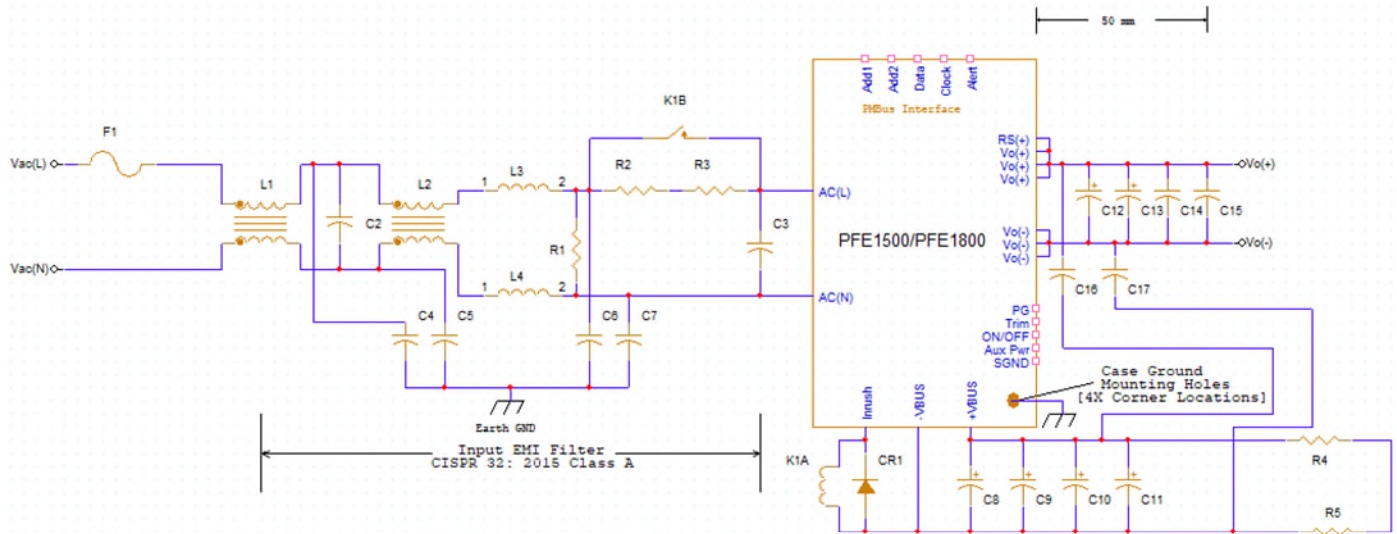

Fig. 7-1 Basic Connection
For proper operation, the PFE1500/1800 series module must be connected with the external components shown in Figure 7-1. Pay attention to the wiring details. If the PFE module is wired incorrectly, the power module may be damaged.
Connect bleeder resistors, R1, across the AC input terminals and R4 and R5 in series across the bulk capacitors C8 - C11 as shown in Fig. 7-1.
Y-capacitors cross the dc-dc converter isolation boundary and are used to reduce common mode noise. These capacitors should be connected between the points indicated in figure 7-1 with low inductance traces that are as short as possible. Capacitors with a high voltage rating are typically required for safety isolation withstanding purposes. High test voltages are often applied across these capacitors during production hipot testing.
3. Bleeder resistors, R4 & R5 (470 k $\Omega$  / 2 W), must be connected across C8, C9, C10 or C11 to discharge the bulk capacitor voltage to a safe level after powering off the PFE module. Refer to Figure 7-1.
Wire wound, thermal fused inrush resistors should be inserted between the line filter and the input terminal, AC(L) as shown in Fig. 7-1, to limit the inrush current to a pre-determined level. Proper inrush control is required during turn-on to avoid the possibility of the external line fuse being blown, the input circuit breaker from being tripped, the bulk capacitors and/or PFE Series module internal parts from being damaged, and to prevent oscillation between the input inductor and the bulk capacitors.